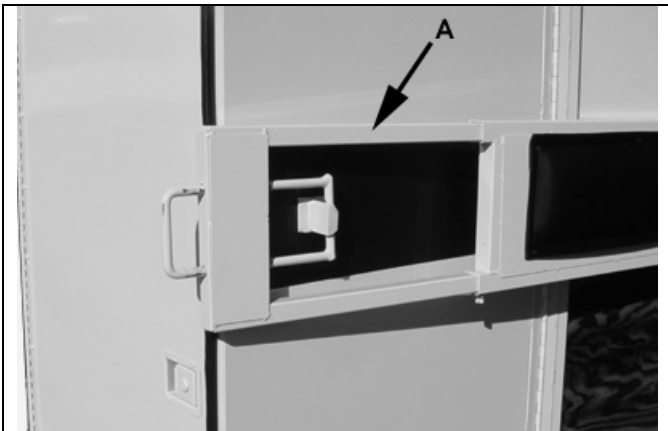

Figure 8-8 – Rear Stall Divider and Tack Compartment
Your horse trailer is equipped with stall dividers to contain the horse. All stall dividers except the rear divider can be locked in the open position against the trailer wall. The rear divider (A) is latched to the tack compartment to hold it in the open position. See figure 8-8.